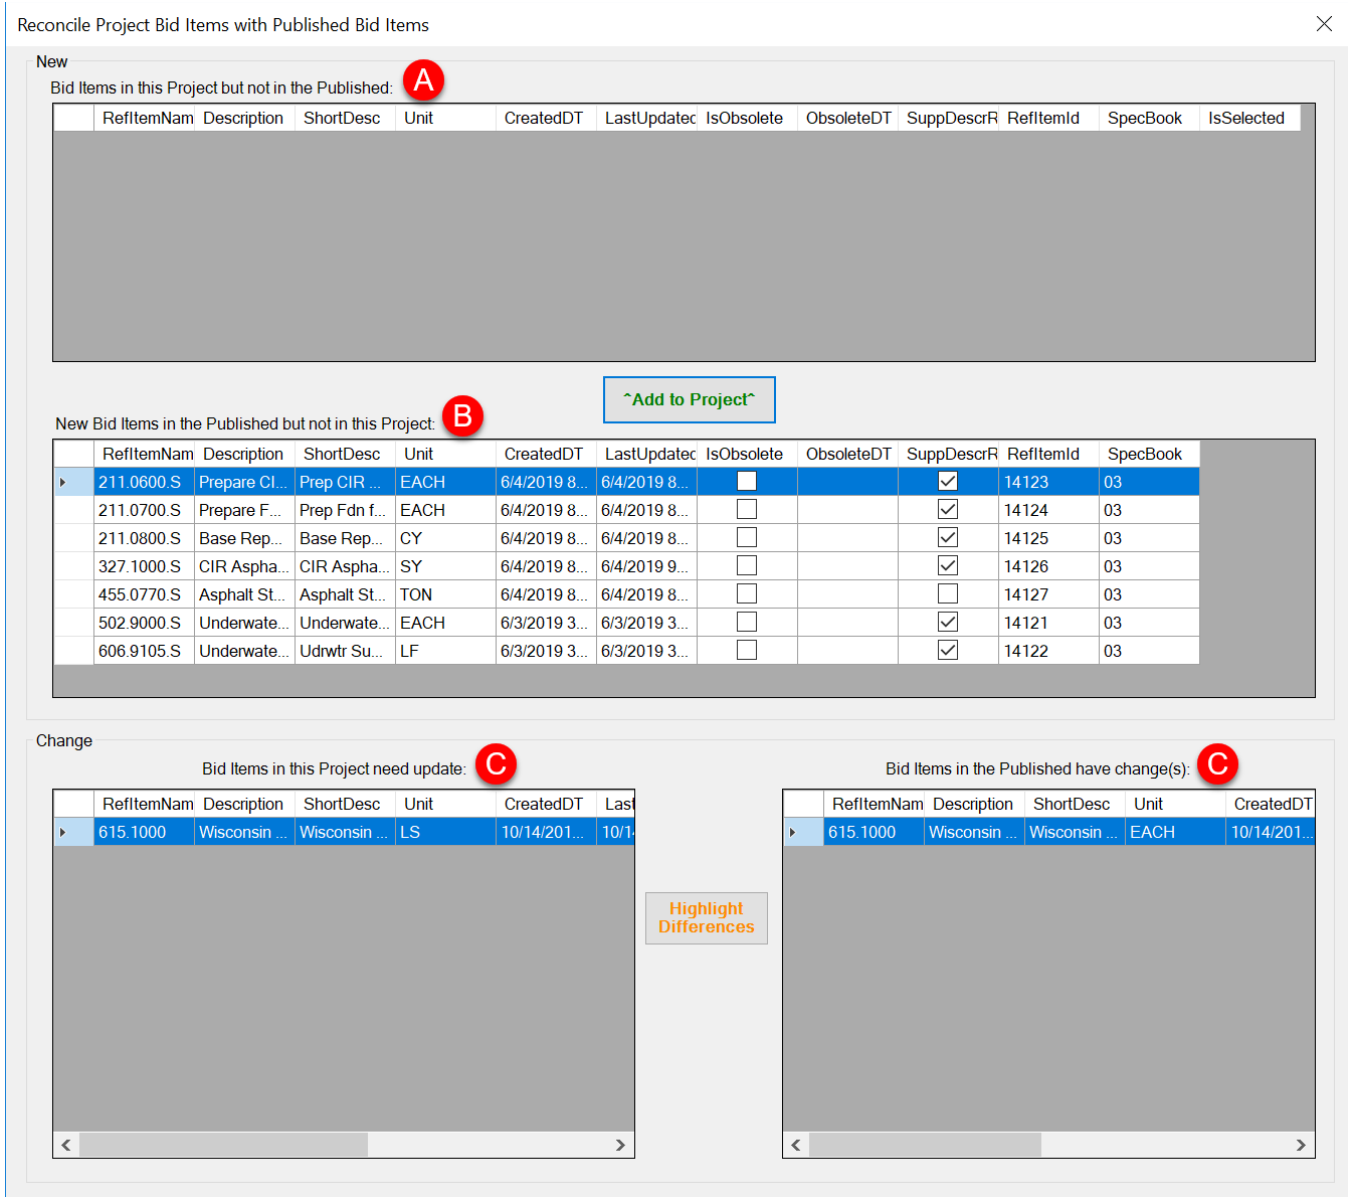

Figure 3.6 Reconciliation Tool in “Project Bid Items” dialog box.
2. Click on the red colored text to bring up the “Reconcile Project Bid Items with Published Bid Items” dialog box (Figure 3.6).